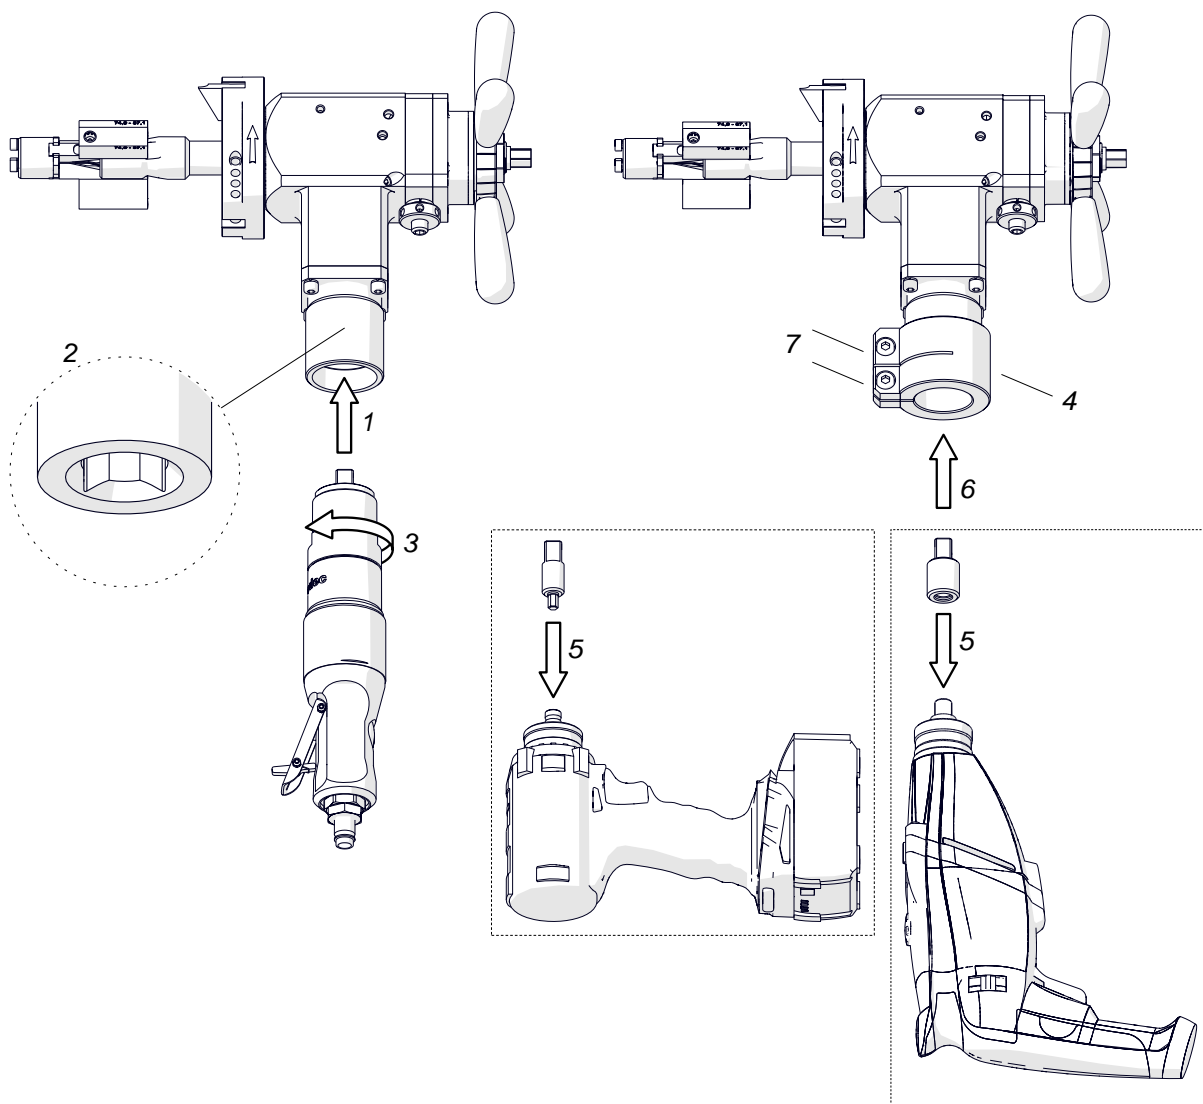

Fig. 4. Installing the air, electric, and battery motor
When using air motor, insert it into the machine (1, Fig. 4) so that the arbor is placed in the socket (2). Then, rotate the motor to the left (3) to tighten it.